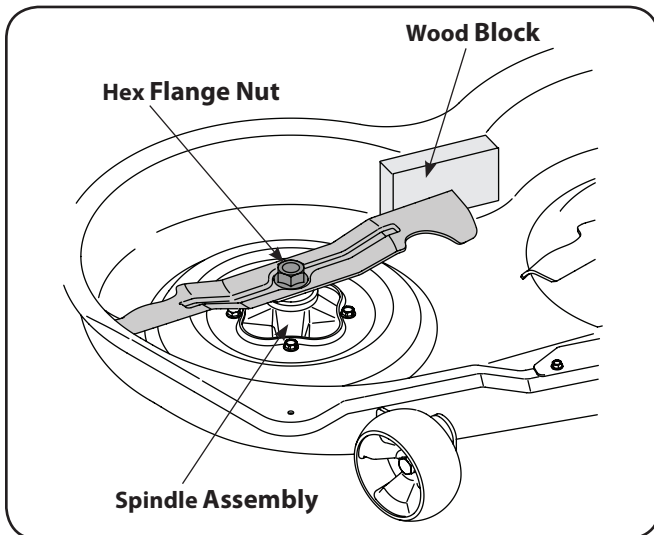

Figure 4-14
2. Place a block of wood between the center deck housing baffle and the cutting blade to act as a stabilizer. See Figure 4-14.
3. Use a 15/16" wrench to remove the hex flange nut that secures the blades to the blade spindle assemblies. See Figure 4-14.